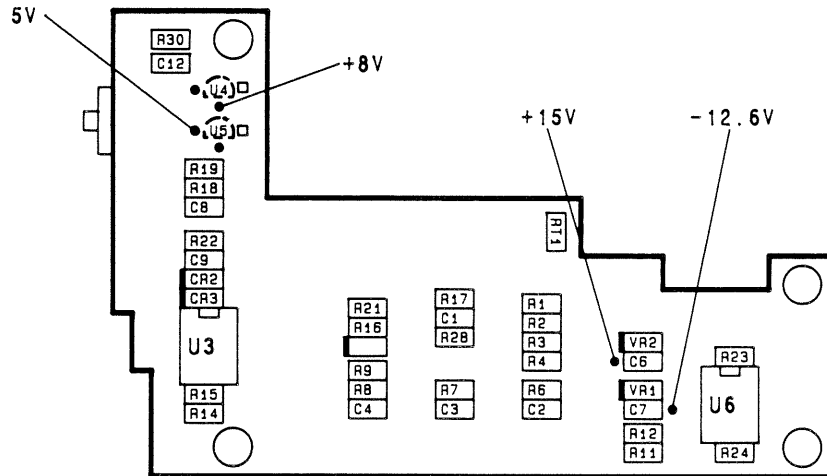

Figure 8-1. A2 Circuit Board Power Supply Check Points
2. Refer to Figure 8-1 and check the power supply voltages of +15, -12.6, +8 and -5 volts at the four pads indicated. Since the +15V and -12.6V are supplied by the analyzer, those voltages are specified in the analyzer's manual. The +8V should be $+8.3 \pm 0.3V$; -5V should be $-5 \pm 0.2V$.
3. Refer to Figure 8-1 and check the power supplies at the various components as required.